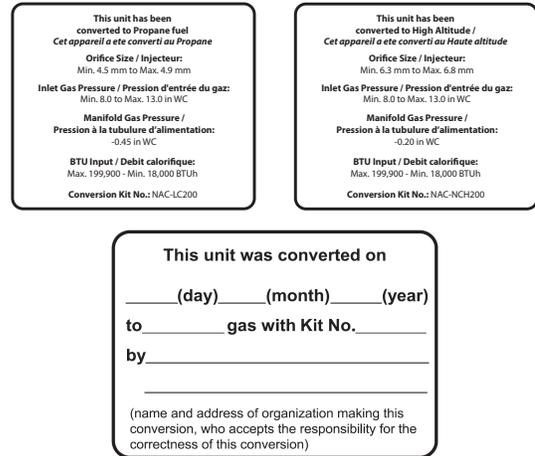

Figure 10. Proper Placement of Gas Conversion Labels
13. Once the CO₂ or offset values have been confirmed, apply the included conversion stickers to show that the appliance has been converted to Propane Gas or High Altitude. Place these labels adjacent to the rating plate as shown in Figure 10.